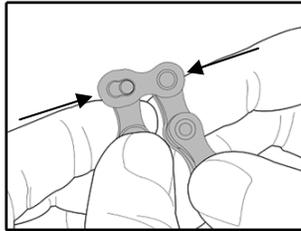

Fig.5
5. Firmly squeeze the link bushings together so that the pins and plates decouple. (Fig.5)